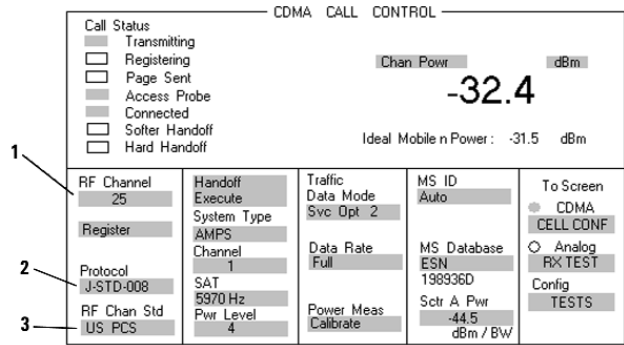

Figure 11. CDMA CALL CONTROL Screen
Access the CDMA CALL CONTROL screen, see Figure 11.
- 1b. Press the **CDMA Config** softkey of the CDMA ANALYZER main menu 1 of 3 (see Figure 11). The CDMA Config options sub-menu 1 of 3 appears.